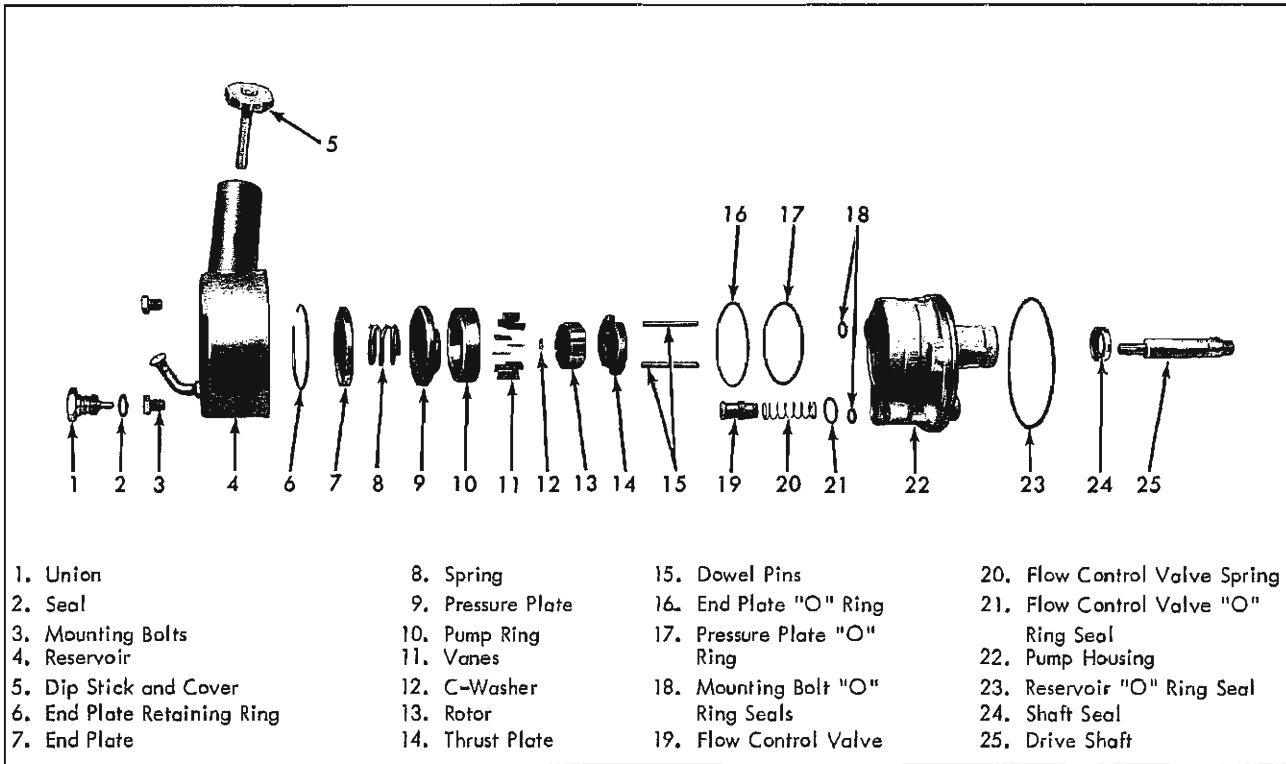

Fig. 9A-46 Power Steering Pump Exploded View
1. Insert shaft at hub end of housing, spline end entering mounting face side (Fig. 9A-47).